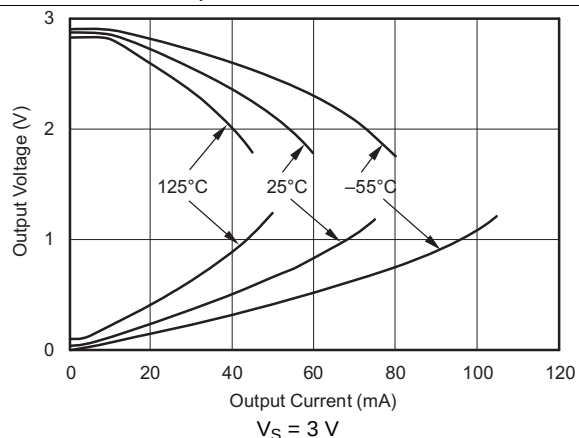
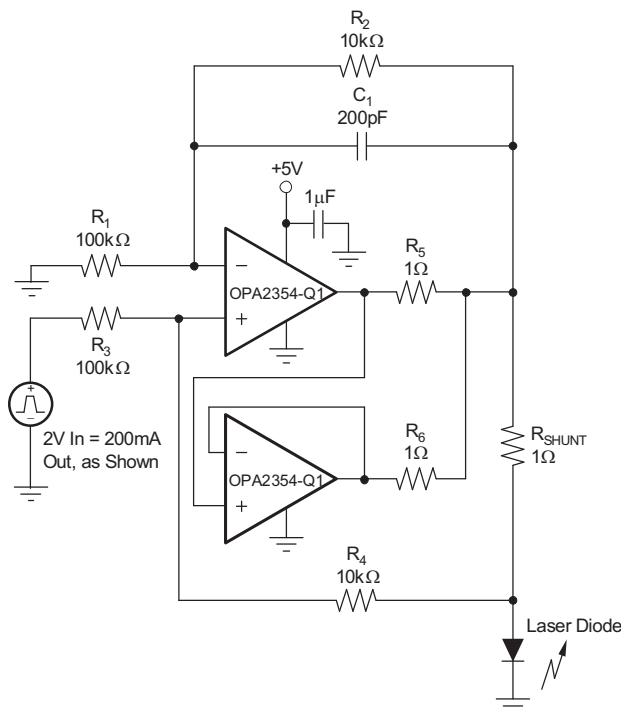

Figure 20. Output Voltage Swing vs Output Current
Figure 31. Parallel Operation
(1) See typical characteristic graph *Output Voltage Swing vs Output Current* (Figure 20).
(2) Not production tested
The device uses a class-AB output stage with common-source transistors to achieve rail-to-rail output. For high-impedance loads ($> 200\ \Omega$), the output voltage swing is typically 100 mV from the supply rails. With 10- Ω loads, a user can achieve a useful output swing while maintaining high open-loop gain; see Figure 20 (*Output Voltage Swing vs Output Current*).
For maximum reliability, TI does not recommend running a continuous DC current greater than $\pm 100\text{ mA}$; see Figure 20 (*Output Voltage Swing vs Output Current*). Operate the OPAx354-Q1 family of devices in parallel to supply continuous output currents greater than $\pm 100\text{ mA}$, as shown in Figure 31.